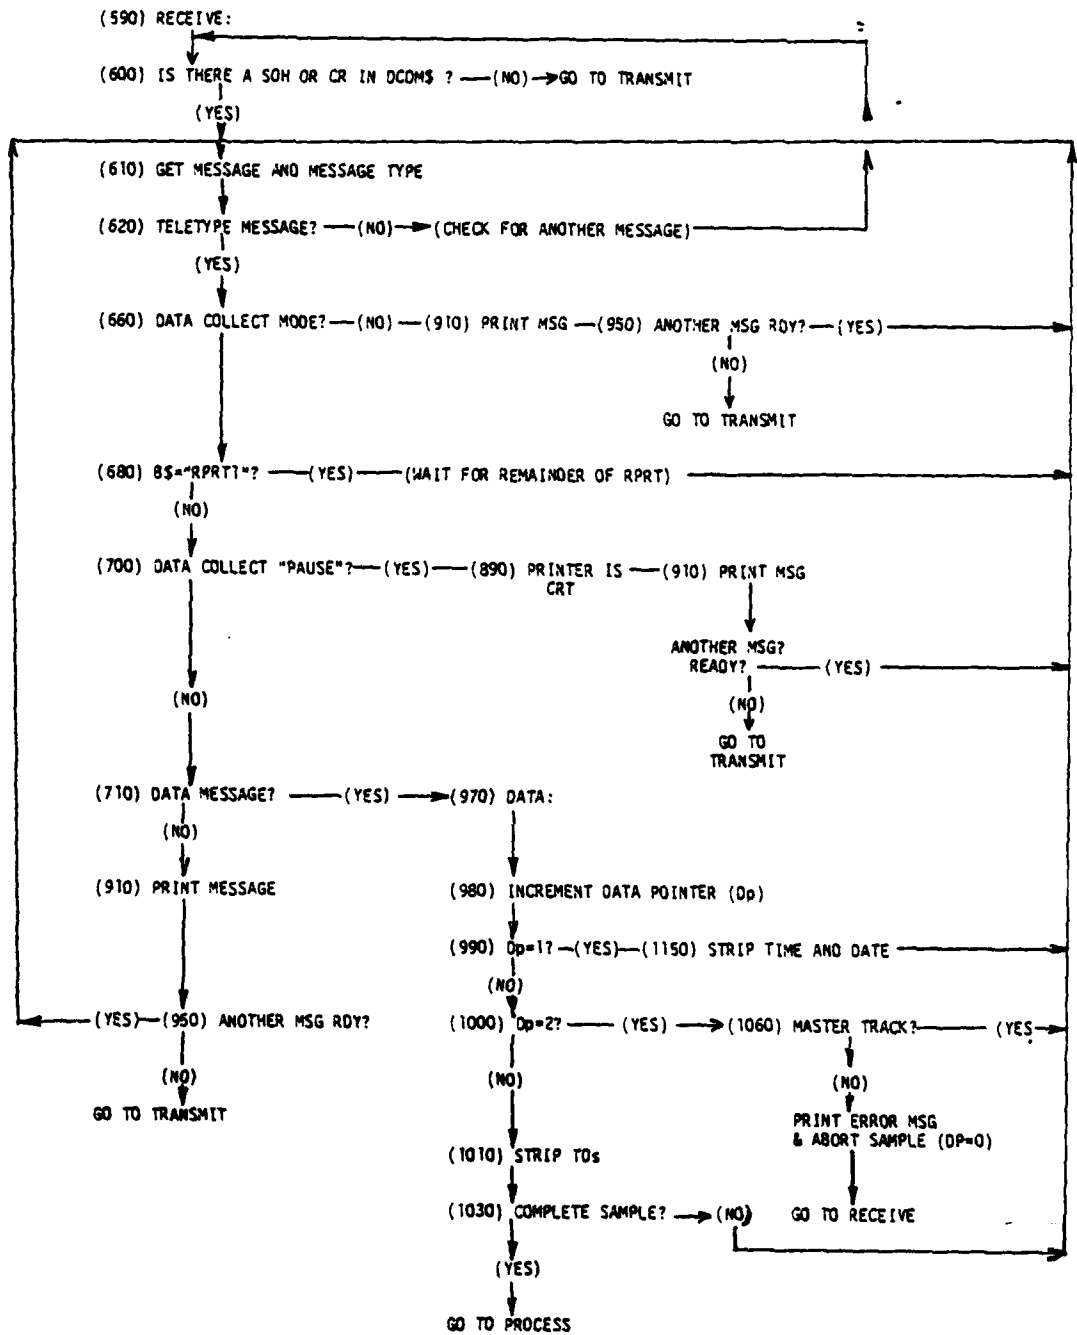

FIGURE 4-4. RECEIVE MESSAGE HANDLER
4.1.1.2 Receive Message Handler (See figure 4-4)